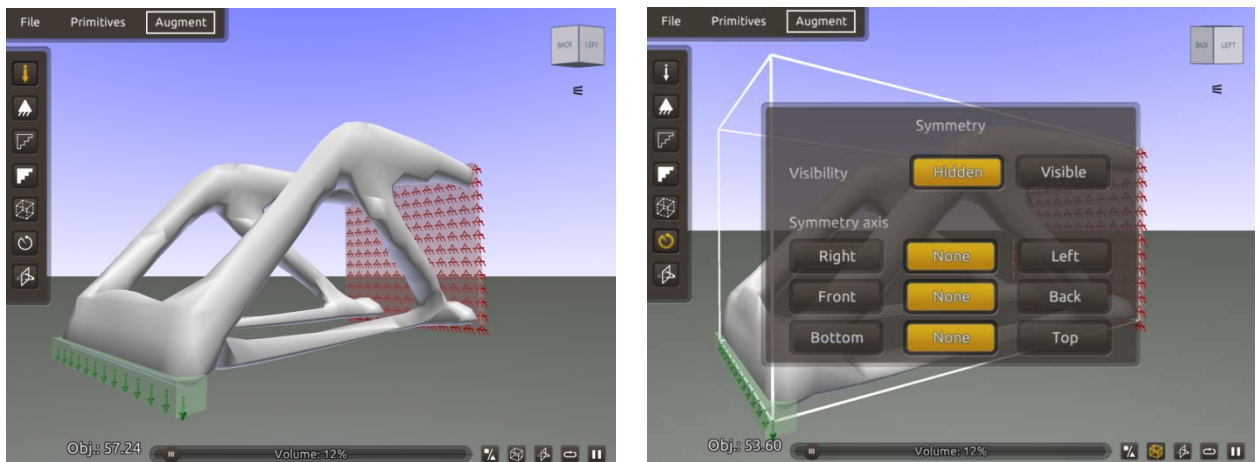

Figure 4: The augment menu with tools (left) and the symmetry settings (right)
**Symmetry.** The symmetry menu is used for visualizing symmetry conditions. Note that the corresponding symmetry boundary conditions are to be applied by the user, and that this tool is only for visualization purposes. The menu consists of the following two items, c.f. figure 4 (right)